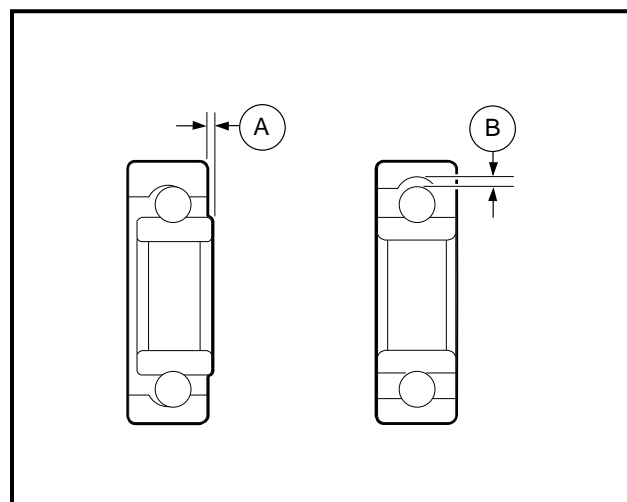

Figure 16-53 Inspect Bearings
2. Inspect all bearings by spinning them by hand. Check the bearings for excessive axial (A) and radial (B) play (**Figure 16-53, Page 16-22**). Replace bearings if they do not spin smoothly, if they are noisy, or if they have excessive play. Replace bearings if they are rusted, worn, cracked, pitted, or discolored.